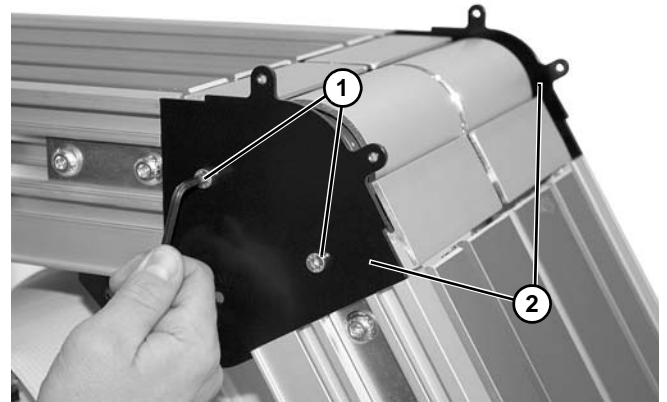

Figure 94
3. Remove two screws (**Figure 94, item 1**) from both sides of knuckle. Remove side plates (**Figure 94, item 2**).